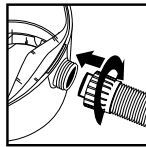

FIGURE 23
33. Reinsert hose into inlet and tighten the locking-nut. **FIGURE 23.**